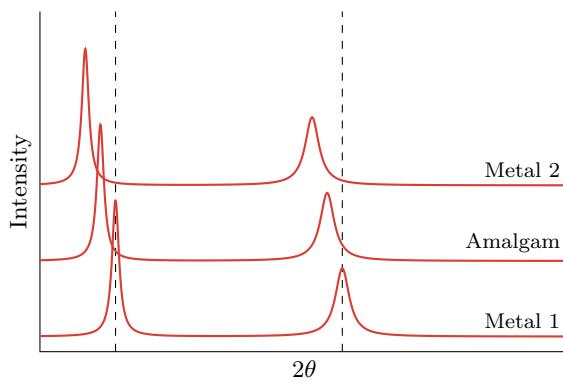

Figure 2.13: Vegard's law.
- **Vegard's law:** Suggests a linear relationship between the lattice constants of an alloy and its composition. (See Figure 2.13, which is highly exaggerated and not to scale.)